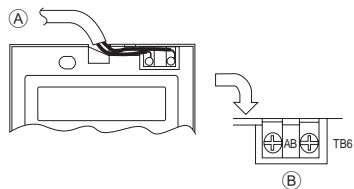

Fig. 6-4
2) Connecting procedures (Fig. 6-4)
- ① Connect the remote controller cord to the terminal block.
- (A) To TB5 on the indoor unit
- (B) TB6 (No polarity)